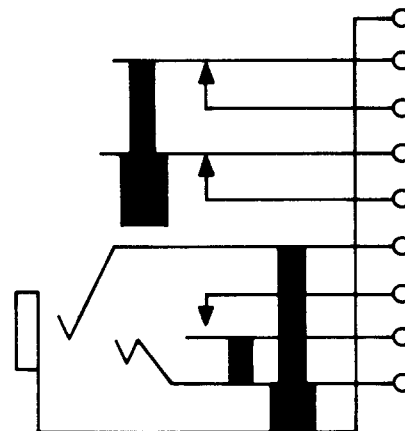

Fig. 3—454A or C Jack
2.03 **454A and C:** These single-mounted jacks (Fig. 3) are used with the 310 or similar-type plugs.